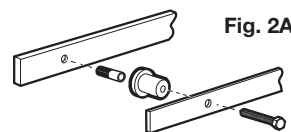

Figure 2A
Drill pilot hole. Insert lag bolt through the first track hole, then place the track spacer through the bolt on back of the track. Install the lag bolt with ½" socket ratchet. Do not tighten fully. Swing the track up and use the level to ensure the track is straight. Mark the remaining holes in the track. Drill remaining pilot holes. Slide the stopper (T) onto the track for the end of the track where you installed the first bolt so it is between the first and second holes on that end of the track. Install the next bolt and spacer at this end of the track. Install the remaining bolts and spacers. Go back and fully tighten the first bolt. Slide the remaining stopper onto the other end of the track. Do not set either stopper at this point. **Refer to Figures 2A, 2B & 2C.**